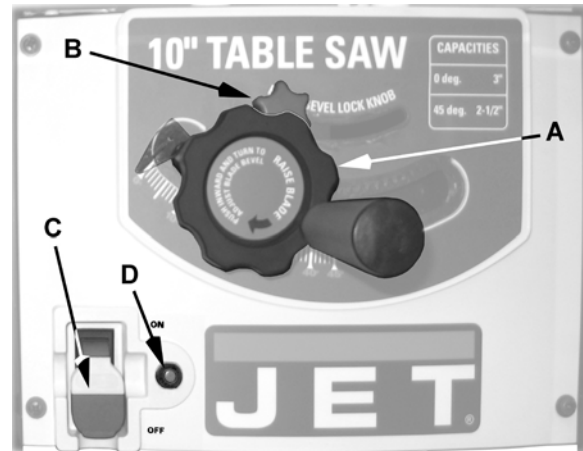
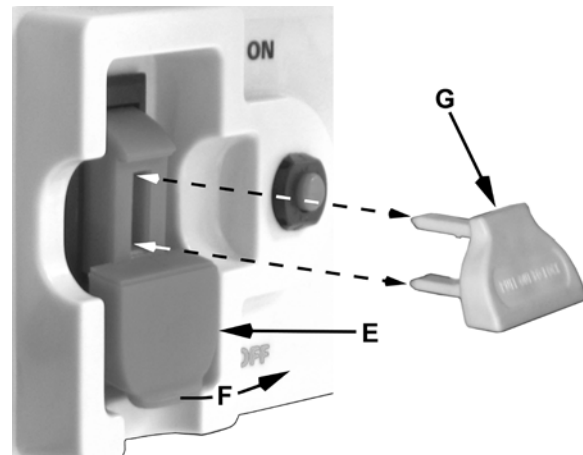

Figure 26
Figure 27
**On/Off Switch** – The *on/off switch* is located on the front panel of the saw base (C, Fig. 26). To turn the saw *on* move the switch to the *up* position (F, Fig. 27). To turn the switch off move the switch to the down position.
**Locking Key** – When the saw is not in use, the switch should be locked in the off position. To lock the switch in the off position, pull out the *safety key* (G, Fig. 27). The saw will not start with the key removed. However, if the key is removed while the switch is in the on position, it can be turned off once. The saw will not restart until the key has been reinserted into the switch.
**Overload Protection** – This saw is equipped with a resettable *overload relay button* (D, Fig. 26). If the motor shuts off or fails to start due to overloading or low voltage, turn the *switch* (C, Fig. 26) to the *off* position and let the motor cool down for at least five minutes. After the motor has cooled down, push the *reset button* (D, Fig. 26) to reset the overload device. The saw should now start when the switch is returned to the on position.
**Blade Height/Tilt Handwheel** – The *handwheel* located on the front of the saw (A, Fig. 26) sets the blade *height* and *tilt*.
wheel (A, Fig. 26) clockwise or counterclockwise.
2. Loosen the *blade tilt lock knob* (B, Fig. 26) by turning counterclockwise.
4. Continue holding the *handwheel* (A, Fig. 26) in until the *lock knob* (B, Fig. 26) is tightened.
- ❑ As the machine receives use, the operation of the anti-kickback pawls should be checked periodically (Figure 26). If the pawls do not stop the reverse motion of a workpiece, sharpen all the points.